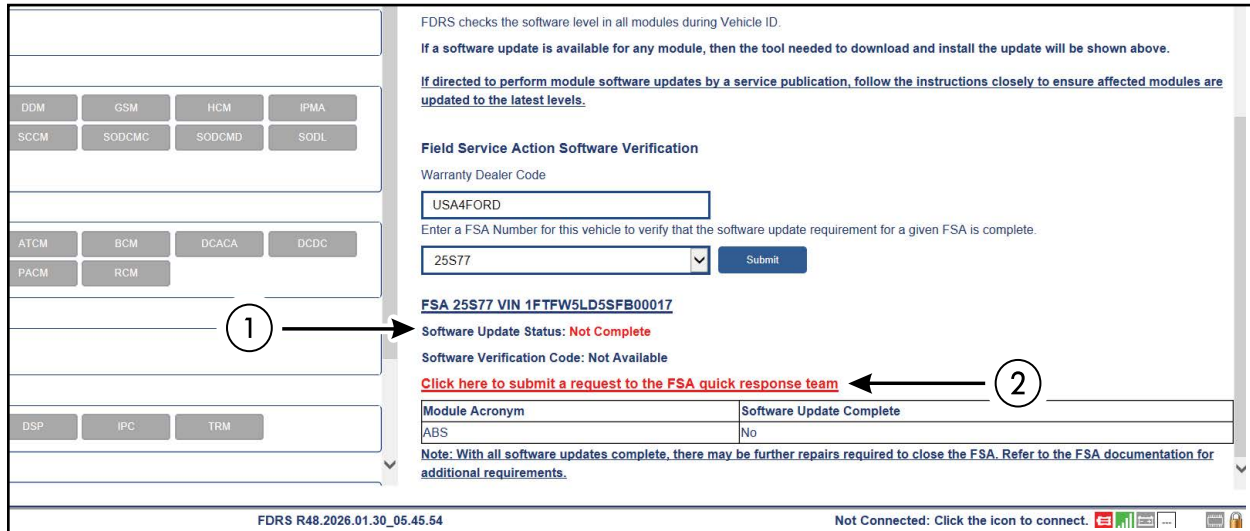

FIGURE 7
See Figure 7.
45. Use the "Click Here to submit a request to the FSA quick response team" link (2) shown in Figure 7.